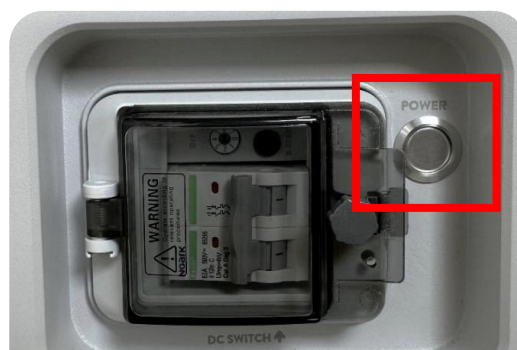

Figure 19: Switching off the battery.
3. Press the silver "POWER" button on the battery (see Figure 19).